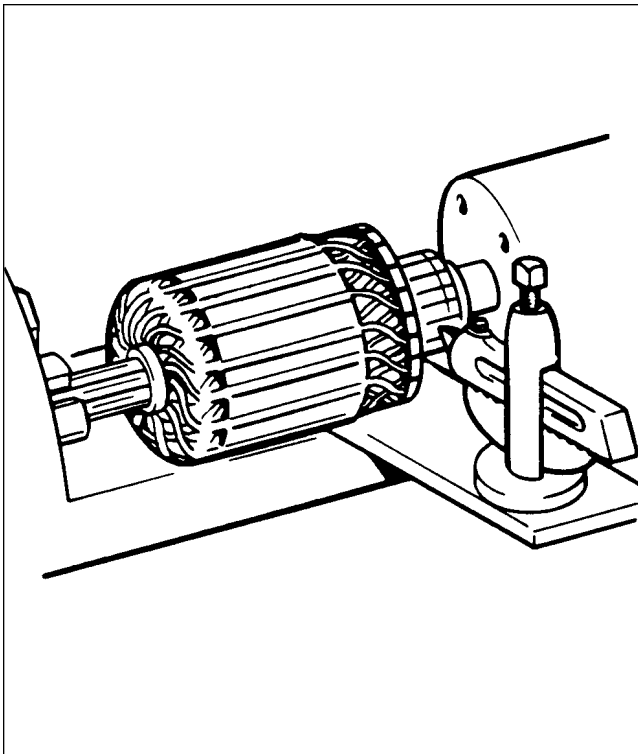

Figure 80-2. Turning Starting Motor Commutator
1. Check commutator for uneven wear, excessive glazing, or evidence of excessive arcing. If slightly dirty, glazed or discolored, commutator can be cleaned with 00 or 000 sandpaper. If commutator is rough or worn, turn in a lathe. (Refer to Figure 80-2.) Armature shaft must be inspected for rough bearing surfaces and rough or damaged splines.